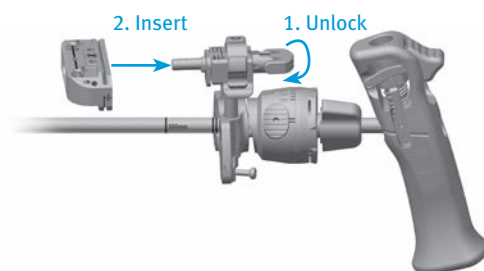

Fig. 6a
- Rotate the lock lever on the Adjustable Resection Tower to the unlocked, or “in-line”, position and fully insert into the Cut Guide (**Fig. 6a**).